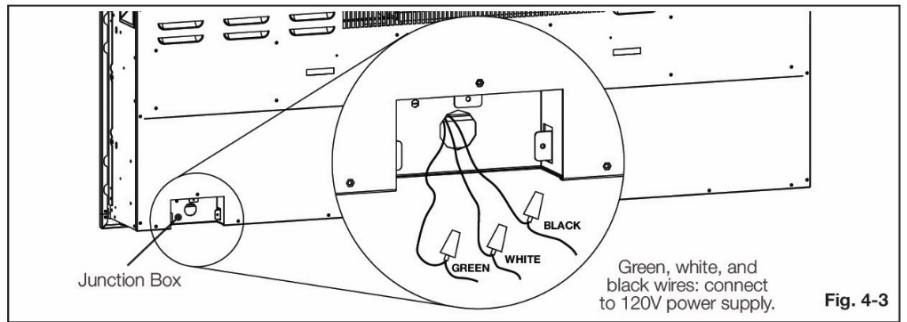

Fig. 4-3
There are 3 wires from the appliance junction box (Fig. 4-3): white (neutral), black (power L1), and green (ground) that are connected to 120V power source (circuit breaker panel). 14 gauge min. recommended.
- Using the previously removed wire nuts, connect the green wire (G) to the supply ground wire, the white wire (N) to the supply Neutral wire, and the black wire (L) to the supply L1 wire (Fig. 4-3).